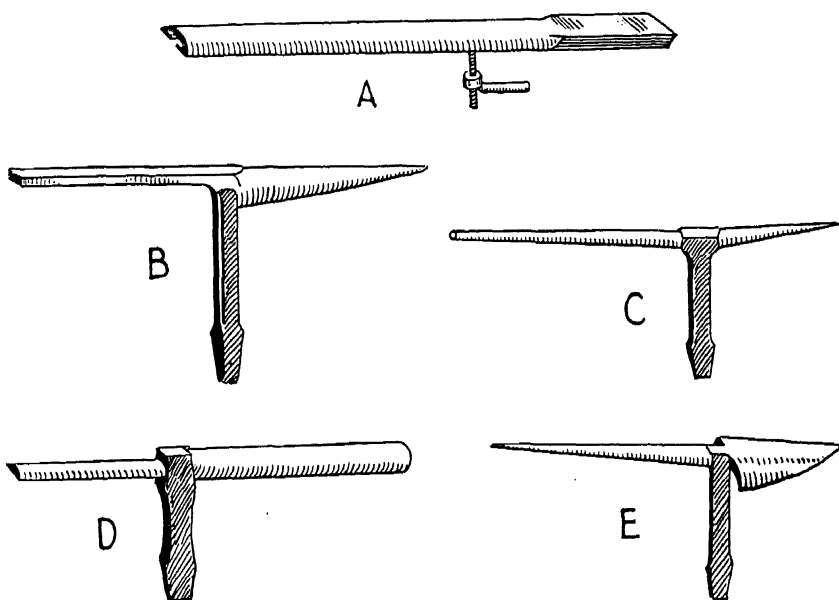

Fig. 50. Some useful stakes for forming curves. A, hollow mandrel; B, beakhorn; C, candle mold; D, conductor; E, blowhorn
Miscellaneous curves can be formed over round stakes. A number of stakes are shown in Figure 50. All of these stakes are useful in forming curves in metalwork projects. Select a stake of suitable curvature and
1. Use a Blowhorn or Beakhorn Stake (see Fig. 50)